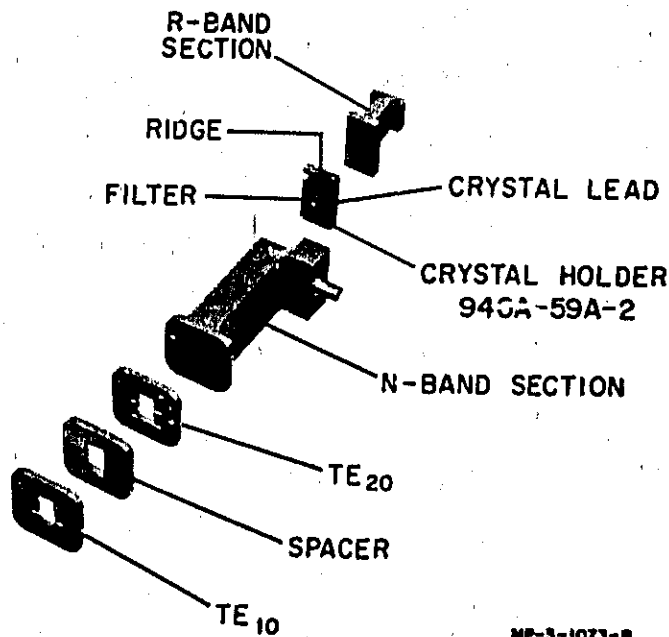

Figure 4. Disassembled 940A-59A Harmonic Generator and Input Filters
17. REMOVING HARMONIC GENERATOR. Parts of the generator are identified in figure 4.
a. Place the new 940A-59A-2 crystal holder on the N-band section. The two sides of the holder are not symmetrical and the harmonic generator will not function properly unless the holder is seated correctly. If the holder faces as shown in figure 4, it will be positioned correctly. In the correct position:
- (1) The ridge and slot in the holder line up with the ridge and slot in the N-band section.
- (2) The filter (recessed portion) on one side of the holder faces down, resting against the N-band section.
- (3) The crystal lead makes contact with the leaf spring on the BNC connector.
(1) Normal. There will be a reading on the order of a few hundred ohms in one direction and tens of thousands of ohms in the other.
(2) Open. If there is no reading, the leaf spring is not making contact with the crystal lead. Remove the BNC connector (a mating male connector may be used to loosen the female), stretch the leaf spring, re-install the BNC, and again measure the resistance.
(3) Short. If the reading is very low, the leaf spring probably is touching the side of the guide. Remove the BNC, adjust the spring so it will center in the opening, re-install the BNC, and again measure the resistance.
a. If the input filters were disturbed when the 940A-59A was removed, arrange them so the filter spacer is between the TE₁₀ (see figure 4) and TE₂₀ filter. It does not matter which filter is nearest the input. Be sure the filters are positioned so the inner dimensions align with those of the 940A-59A.